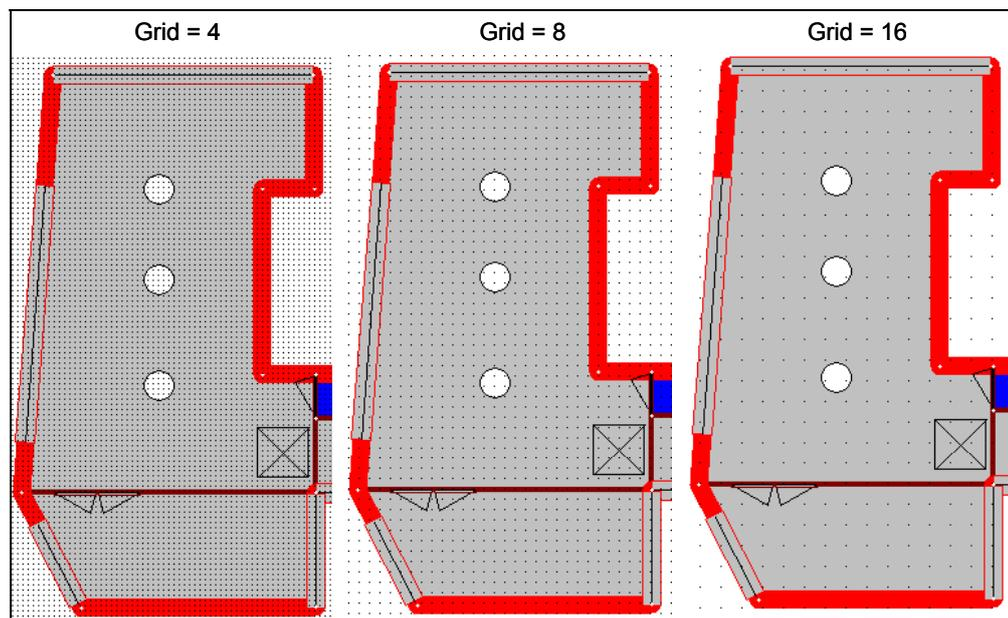

Figure 60: Using different grid settings
- A grid defines "*gravity*" points, used when drawing walls, pipes (see chapter 3, Selecting Air Conditioning Devices) or ducts (see chapter 4, Designing a Ventilation Strategy). Instead of drawing a smooth line, a line point is "attracted" to the closest grid point. "*Use grid*" activates the grid and "*Show grid*" displays it as in Figure 60: